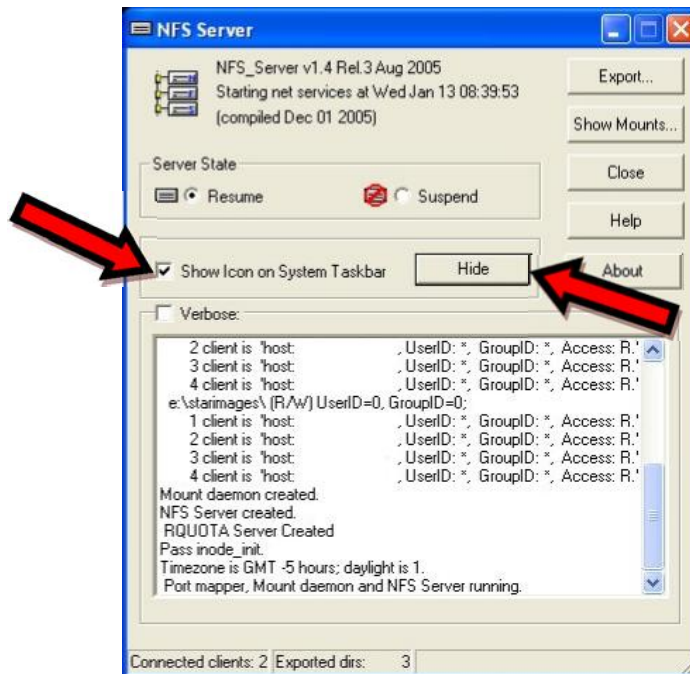

Figure 8-18: NFS Server Window
2. Select the **Show Icon on System Taskbar** checkbox (Figure 8-18)
3. Click on the **Hide** button (Figure 8-18)